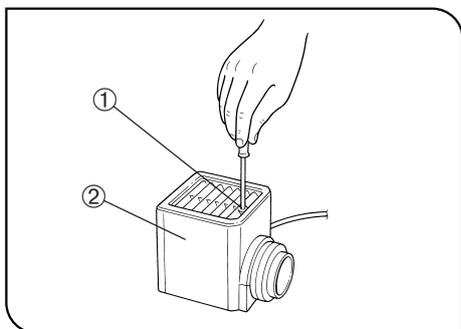

Fig. 51
5. Fit the lamp housing from up and tighten the clamping screw ① by applying downward pressure. (Fig. 51)